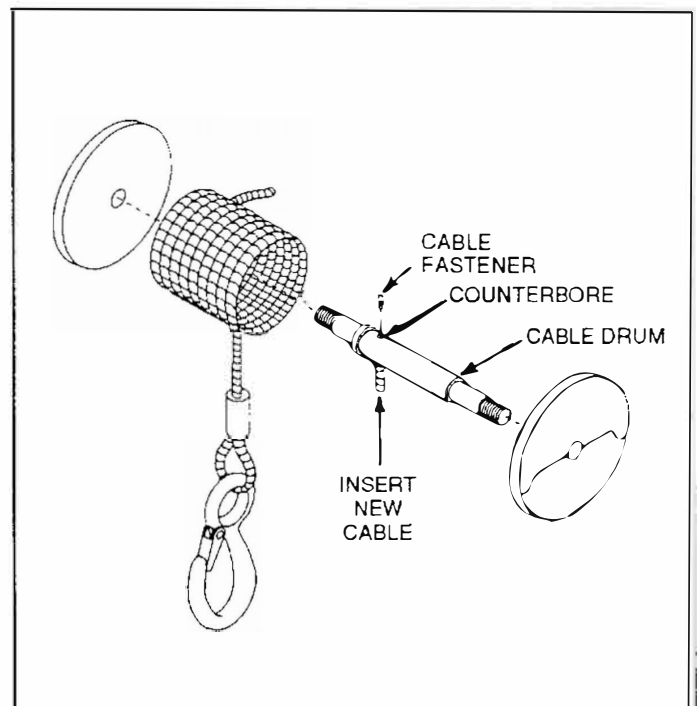

Figure 10 Cable Replacement
2. Remove the two cover rods and the four cover screws (See Figure 10).
3. Cut the old cable approximately 2" from the drum and push the remaining cable and fastener through the drum to remove (See Figure 10).